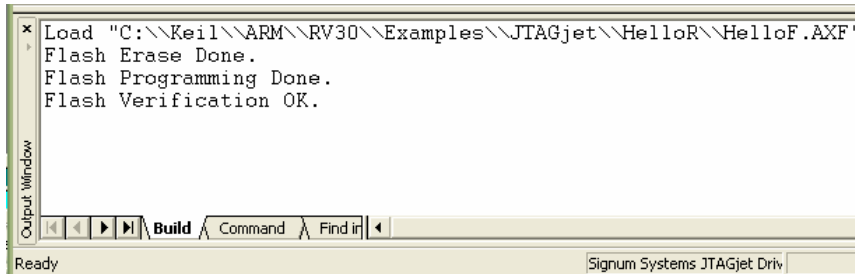

FIGURE 23 The Build tab of the Output window. Flash programming messages.
From the Flash menu, select Download. The JTAGjet emulator connects to the target and writes the application code to the LPC2129 on-chip flash memory. The messages displayed in the Build tab of the Output window confirm that the flash memory was erased and then programmed successfully with the HelloF.AXF application (Figure 23).
1. In the Select Target combo box on μ Vision3 toolbar Select Hello Flash as your current project target. Load the application into the flash memory by selecting Download from the Flash menu. The JTAGjet emulator connects to the target and writes the application code to the LPC2129 on-chip flash memory. Messages displayed in the Build tab of the Output window confirm that flash memory was erased and then programmed with HelloF.AXF application (Figure 23).